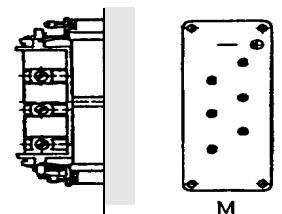

Figure 19 DIN male connector.
- 134** Connection via an industrial Harting 6HSB connector in accordance with DIN 41640. 35 A, 600 V, 6p + PE (see Figure 19).